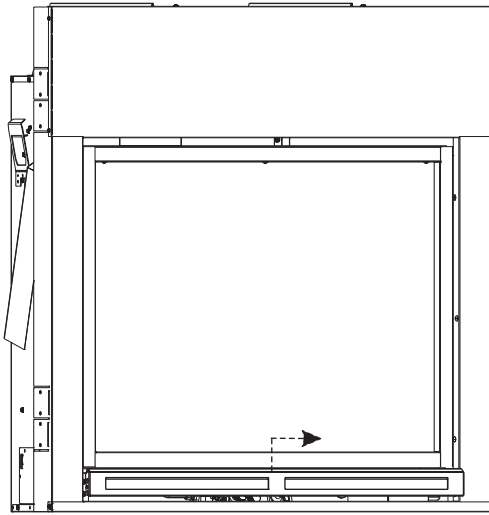

Figure 17
1. Make sure power is turned off. Tilt and pull lower panel to remove from bottom assembly. **See Figure 17.**